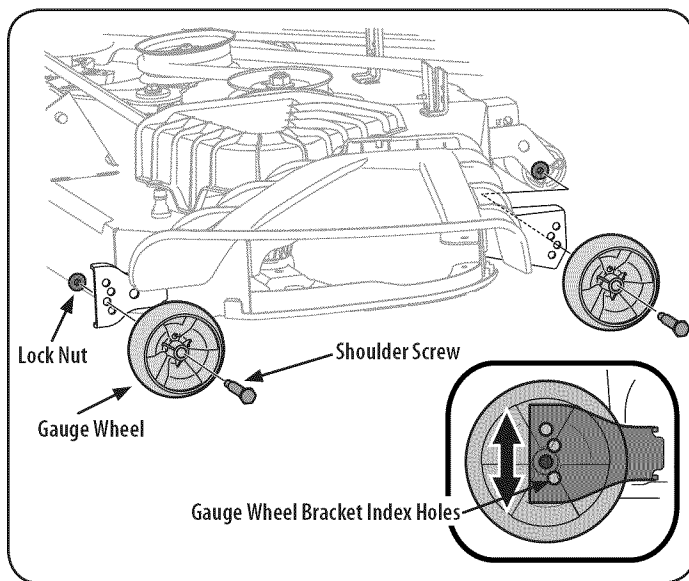

Figure 5
2. Remove the flange lock nut securing the gauge wheel shoulder bolt to the deck. Remove the gauge wheel and shoulder bolt. Refer to Figure 5.